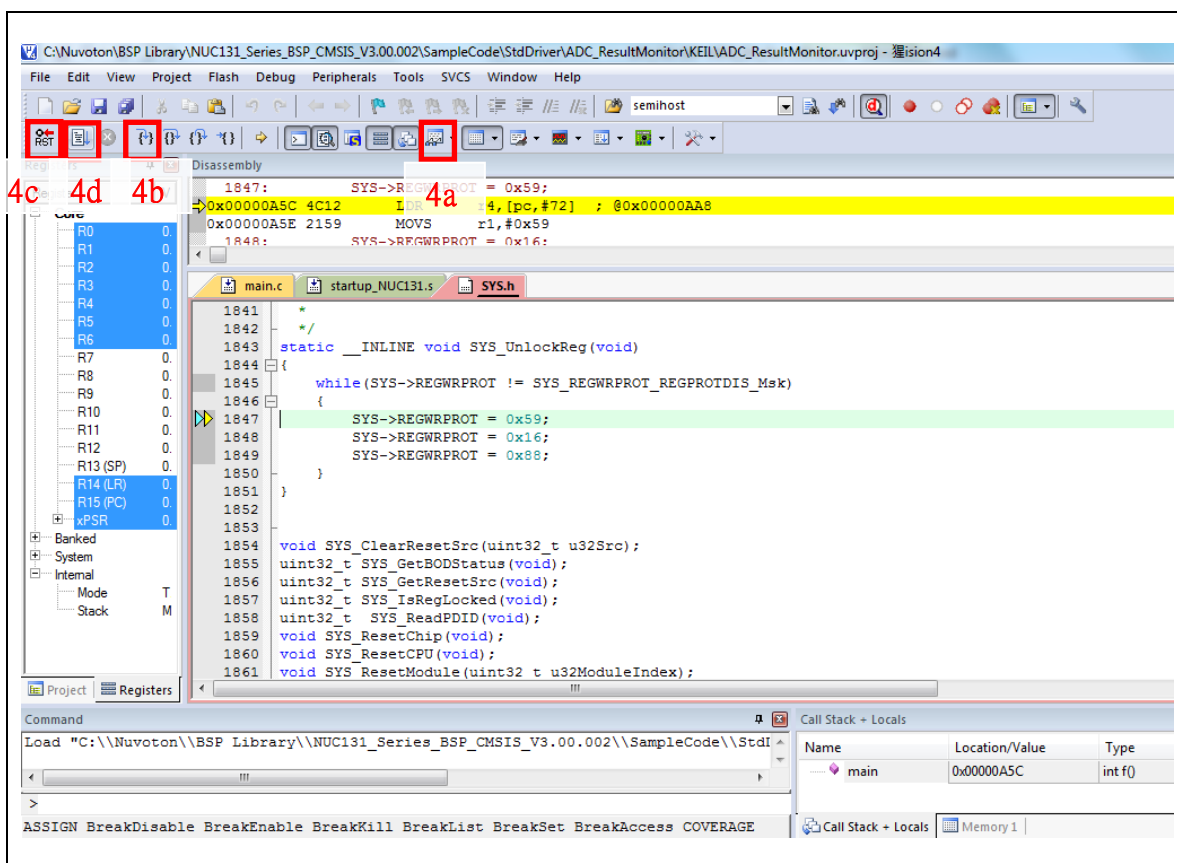

Figure 6-10 ADC Enter Debug Mode Interface
- a.  **Window View** to detect changes in the value of variables and registers (Step 4a in Figure 6-10)
- b.  **Single-Step** through code (Step 4b in Figure 6-10)
- c.  **Reset** the device (Step 4c in Figure 6-10)
- d.  **Run** the application (Step 4d in Figure 6-10)